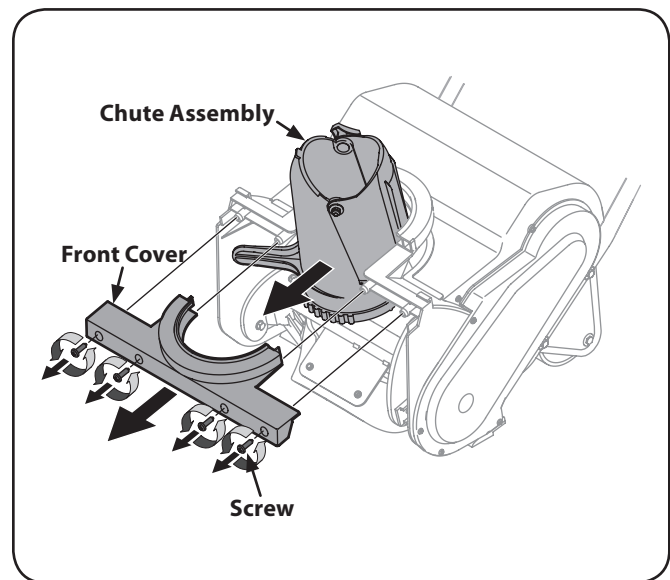

Figure 3-6
1. Remove the four screws securing the front cover to the auger housing. Remove the front cover and the chute. See Figure 3-6.